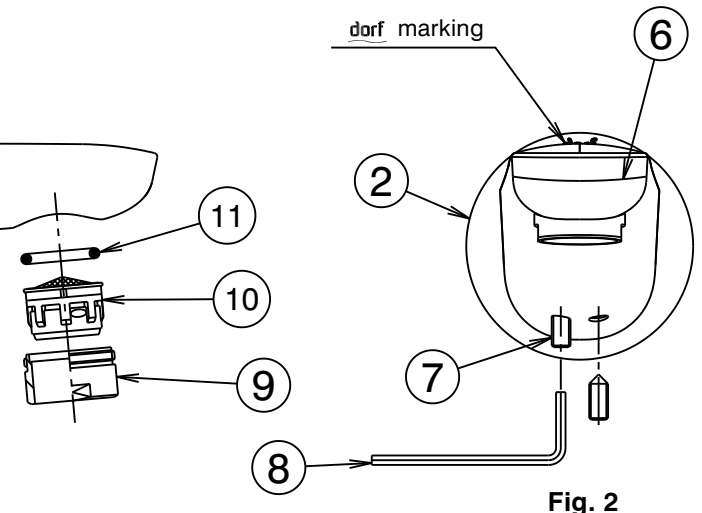

Fig. 2
- 1) Check that threaded nipple (1) is the correct length, as shown. Cut to length if required ensuring end face is square. Apply thread tape to the thread. **Important:** Care must be taken that thread tape cannot become dislodged and block the flow regulating device, causing a reduction in water flow.
- 2) Slide brass washer (3) followed by cover plate (2) onto plain diameter of adaptor (4), as shown. Screw adaptor (4) onto threaded nipple (1) until cover plate (2) is held securely against wall/tile face and the 'dorf' marking is at the top, as shown in Fig. 2. DO NOT OVERTIGHTEN. Apply suitable lubricant to 'O'Rings (5) on adaptor (4).
- 3) Fit wall basin outlet (6) onto spigot of adaptor (4) and position basin outlet against the cover plate (2), taking care not to damage the decorative finish. While the basin outlet is held in the correct position against the cover plate, tighten screws (7) using 2.50mm allen key (8) until the basin outlet (6) is held firmly against the cover plate (2).